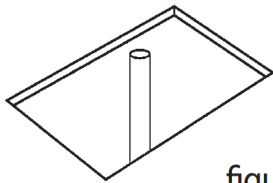

figure 8
3. Determine the location of the drain pipe, on the floor by taking measurements of the drain and waste location underneath the unit (figure 8).